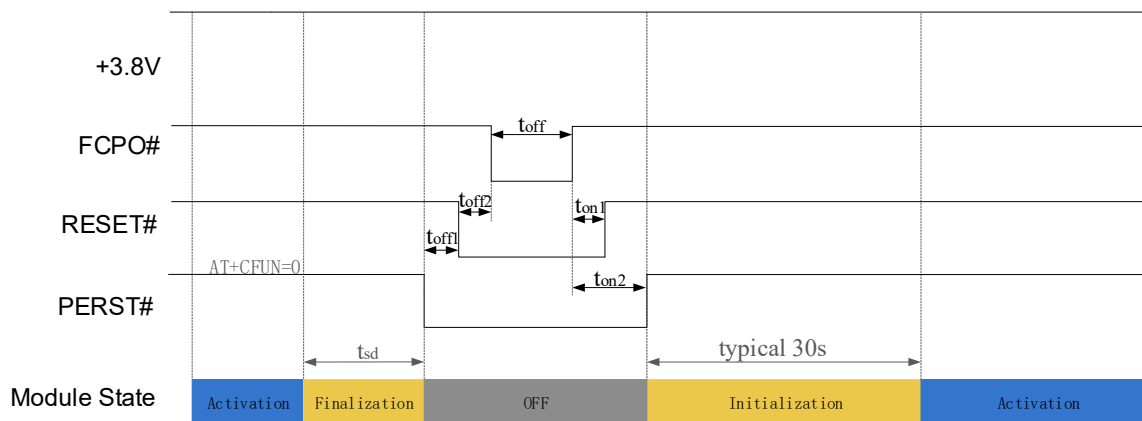

Figure 3-9 Reset timing2nd
- Reset timing 2nd in Figure 3-9, PMU of module internal will be off in reset sequence (including whole power off and power on sequence, t_{sd} can refer section 3.3.2), recommend using in system warm boot.
Restart	Refer to section 3.3.3 Figure 3-9 Reset timing 2 nd